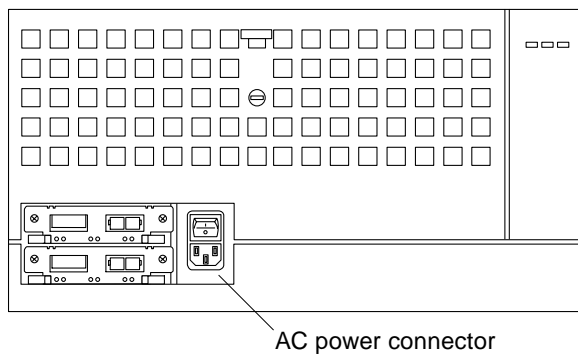

FIGURE 4-8 AC Power Connector
1. Connect the female end of the power cord to the power receptacle at the rear of the disk array (FIGURE 4-8).